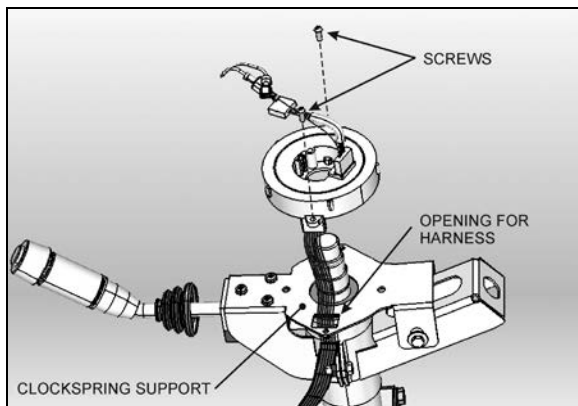

FIGURE 13: CLOCKSPrING INSTALLATION
3. Route the new clockspring harness through the opening in the clockspring support (Fig. 13). Plug the connector at the base of the steering wheel column and fix harness along the steering wheel column.